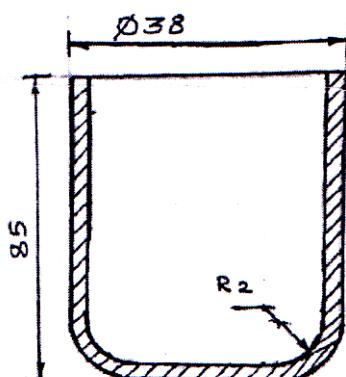

Figure No.1. All dimensions in mm.
- Q1) a)** To design drawing die for a component as shown in figure no.1, calculate following values for a sheet of thickness 2 mm and yield strength 300 MPa.